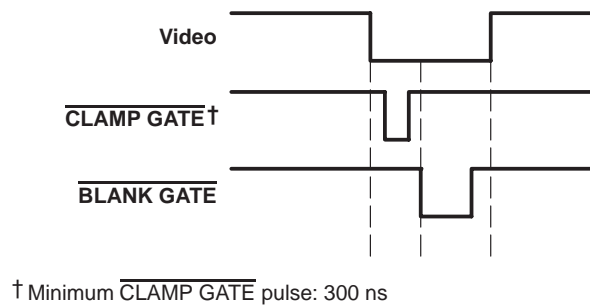

Figure 2. Test/Application Circuit Timing Diagram
**electrical characteristics at 25°C operating free-air temperature range,  $\overline{\text{CLAMP GATE}} = 0$  V,  $\overline{\text{BLANK GATE}} = 4$  V,  $\text{CLAMP}(+) = 2$  V,  $\text{CONTRAST} = \text{R, G, B GAIN ADJUST} = 4$  V,  $V_{CC1} = V_{CC2} = 12$  V (see Figure 2) (unless otherwise noted)**